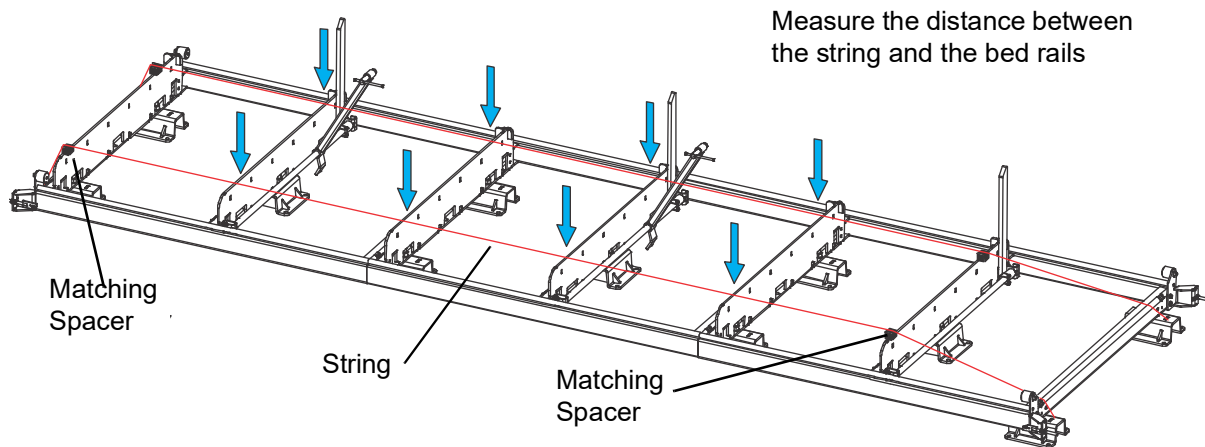

FIG. 3-13
See Figure 3-13.
2. Run a string from the front bed rail to the rear bed rail near the operator's side of the frame. See Figure 3-13.